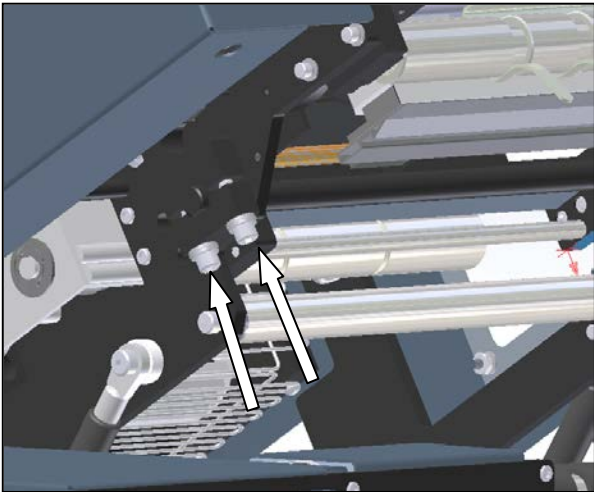

Figure 3-276. Cradle Latch Screws
- Once the top spring screw is removed, the latch can be rotated 180 degrees to access the latch screws. Loosen the two screws on the top of the cradle latch. Once loose, the cradle latch can be removed from the machine (Figure 3-276).